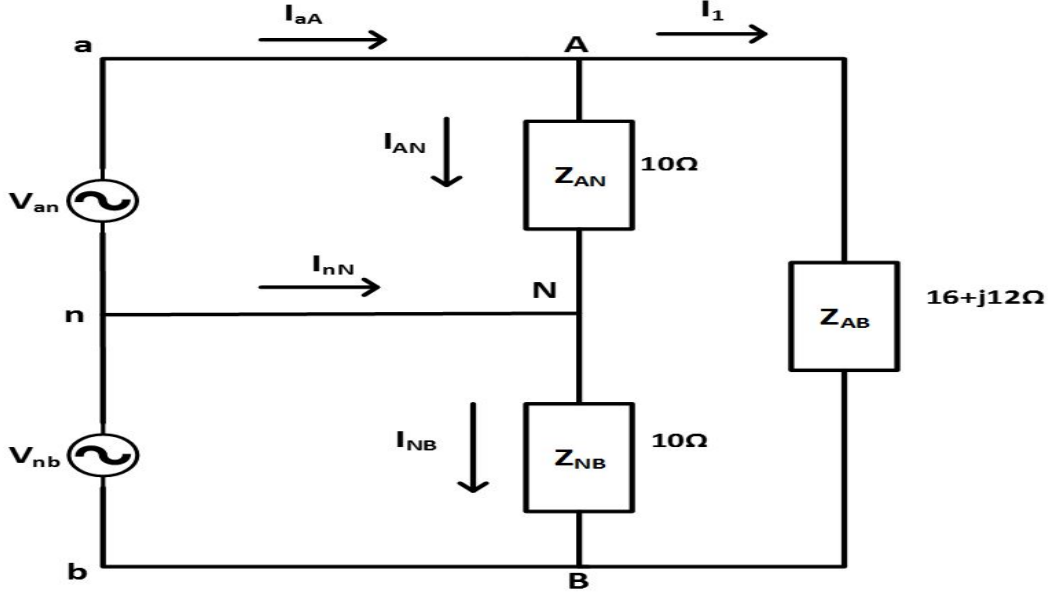

Fig.Q2
2. A balanced three-wire single phase system (Fig.Q2) has loads  $Z_{AN} = Z_{NB} = 10\Omega$  and a load  $Z_{AB} = 16 + j12\Omega$ . The three lines may be assumed to be resistanceless. If  $V_{an} = V_{nb} = 120\angle 0^\circ$  rms, find the currents  $I_{aA}$  and  $I_{nN}$ . If the system is made unbalanced by connecting another  $10\Omega$  resistance in parallel with  $Z_{AN}$ , find the currents  $I_{aA}$ ,  $I_{bB}$  and  $I_{nN}$ .